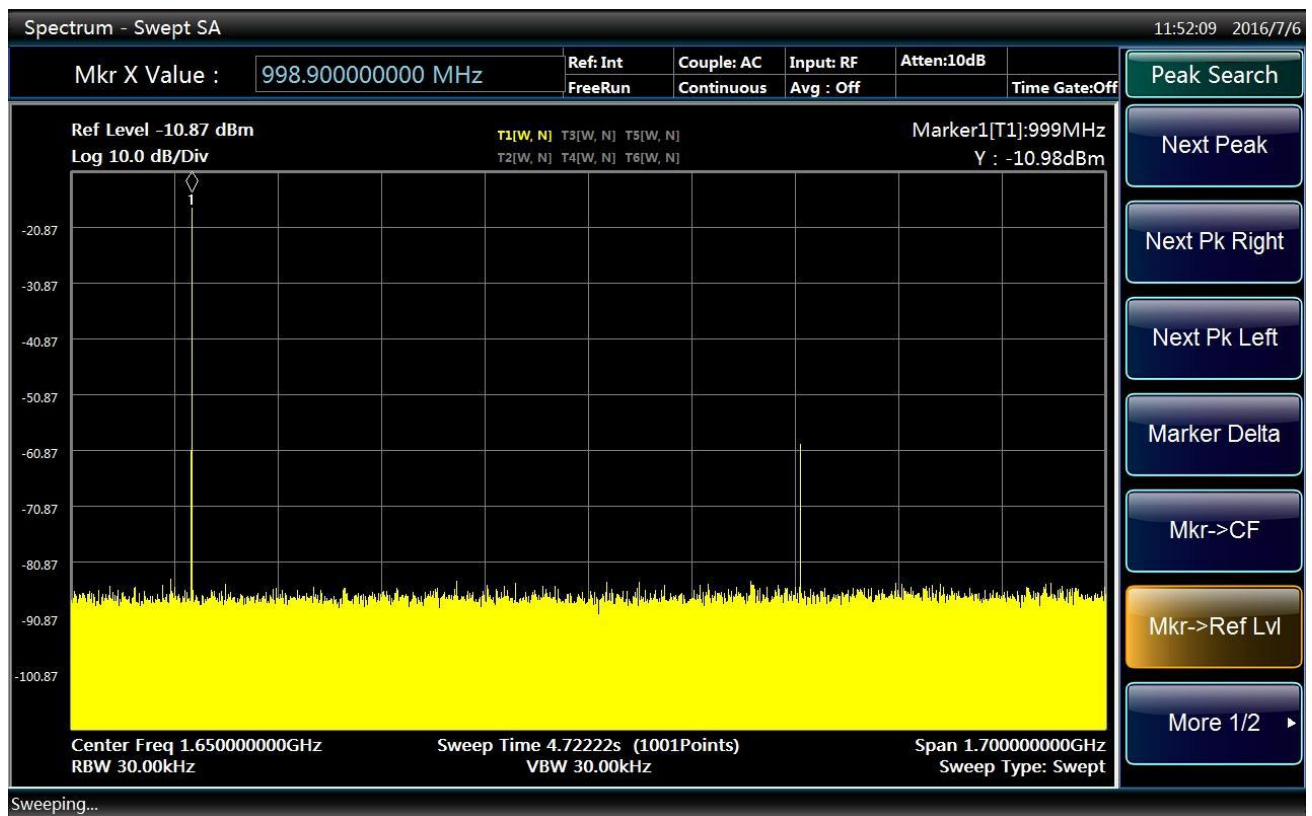

Fig. 4.18 Display interface of signal peak at reference level
- Press **【Peak Search】** and [Marker → Ref Level] to obtain an interface as shown in Fig. 4.18.